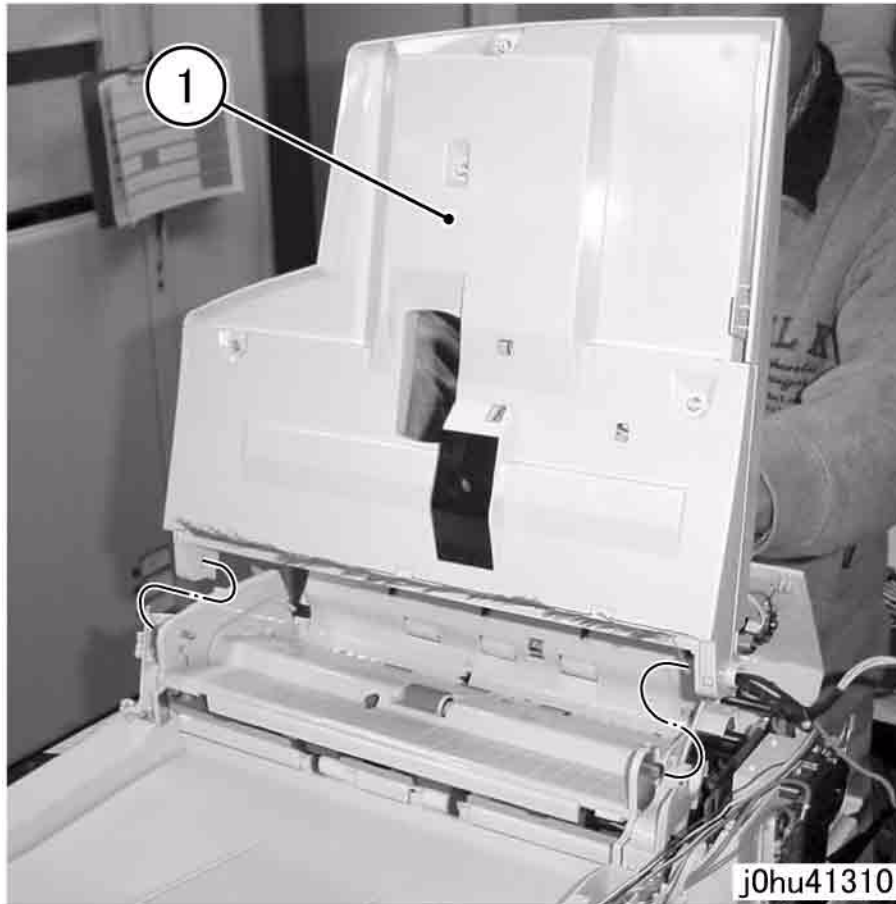

Figure 5 Remove document Tray Assembly
7. Remove the Document Tray Assembly (Figure 5).